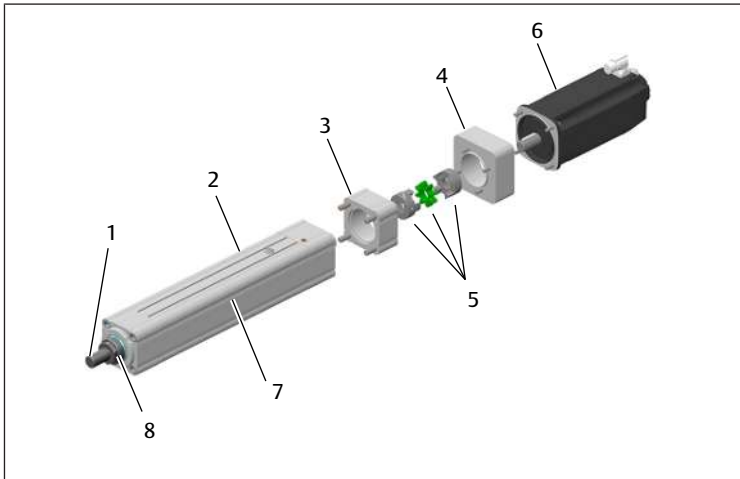

Fig. 5: Overview (size 100 mm)
- For size 100 mm. See → Fig. 5.